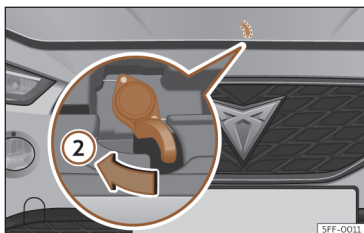

Fig. 206 Lever under the bonnet.
- To lift the bonnet, press towards the left on the lever located under the bonnet, in the centre»» **Fig. 206** ②. The arrester hooks are released.